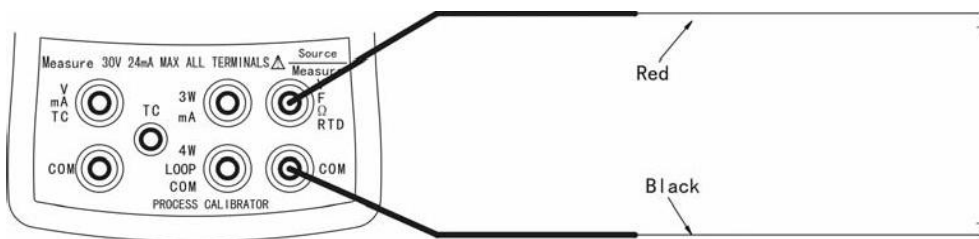

Figure6-3 Resistance Sourcing Connections
- (1) Press  until the lower display shows "SOURCE".
- (2) Press  to select resistance until the display shows "Ω".
- (3) Connect the test leads as shown in Figure6-3.
- (4) Enter the desired output value by pressing numeric keypads